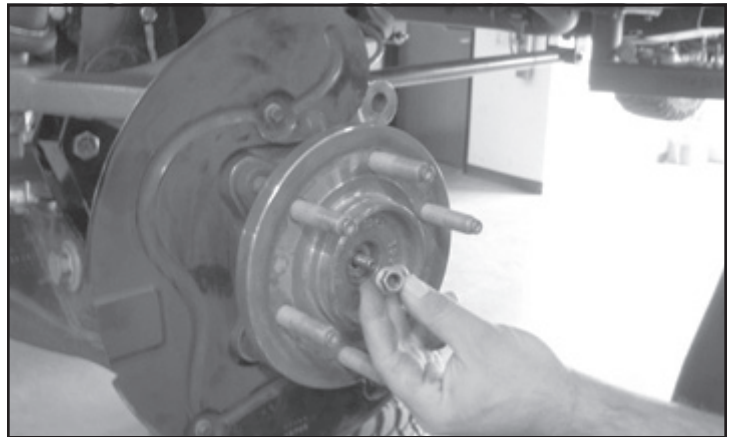

FIGURE 51 - STEP 54
54. Install the dust shield and torque to 14 ft-lbs. Install CV shaft nut and torque to 35 ft-lbs. Install the factory dust cover. **SEE FIGURE 51**